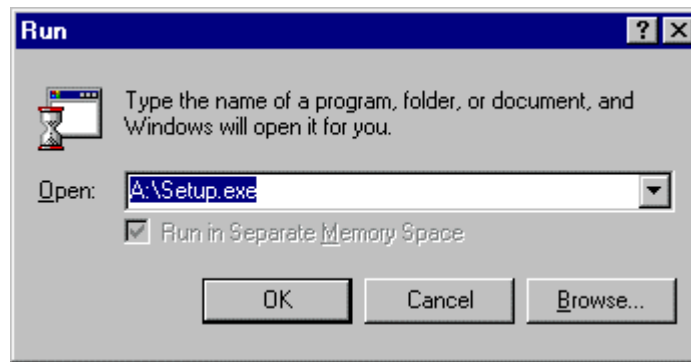

Figure 31 – Run dialog box
4. Type **a:\setup.exe** in the RUN dialog box. Click **OK** to continue. See Figure 31.